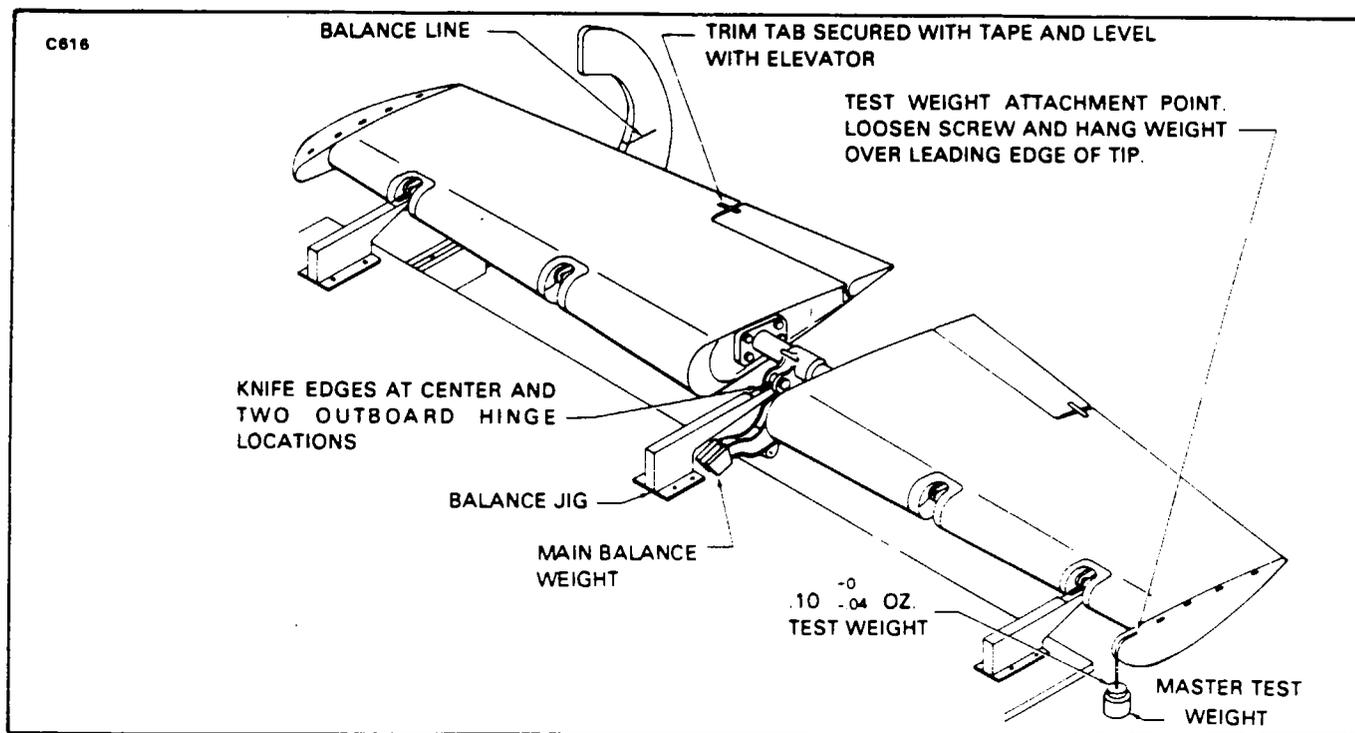

Figure 55-2. Elevator Balancing
**ELEVATOR BALANCING PROCEDURE.** (Refer to Figure 55-2.)
4. Hang the fabricated master test weight over the elevator counterbalance assembly as shown in Figure 55-2. Check the master test weight arm location as shown on Figure 55-2 and specified in Chart 5501.